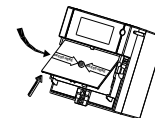

Fig. 6: Replacing the operating element
4. Replace the operating element (see Fig. 6)